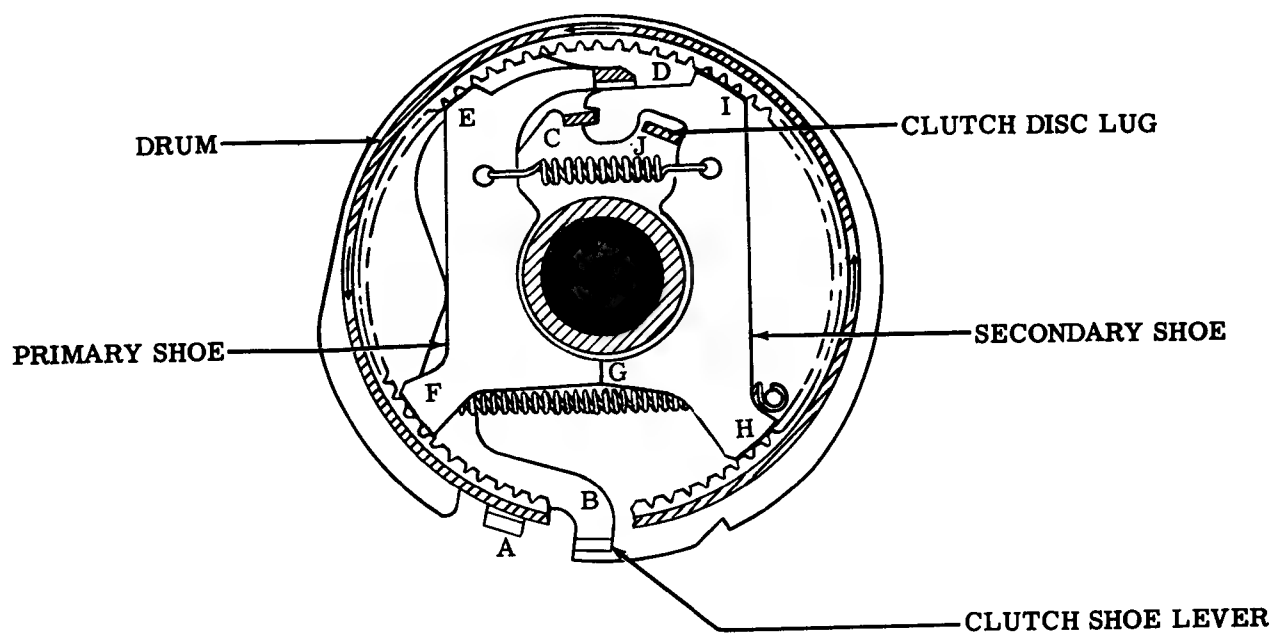

Figure 18 - Clutch — Engaged
5.01 The clutch is engaged (Figure 18) by releasing the lower end of lever B. The upper end of lever B pivots about its ear C (which bears against the upper end of the secondary shoe) and moves its ear D, and the upper end of the primary shoe, toward the left until the shoe makes contact with the drum at point E. As the drum turns counterclockwise, it drives the primary shoe downward, so that it again makes contact with the drum, this time at point F. There, the combined forces acting on the primary shoe cause it to push against the secondary shoe at point G. The lower end of the secondary shoe then bears against the drum at point H. The